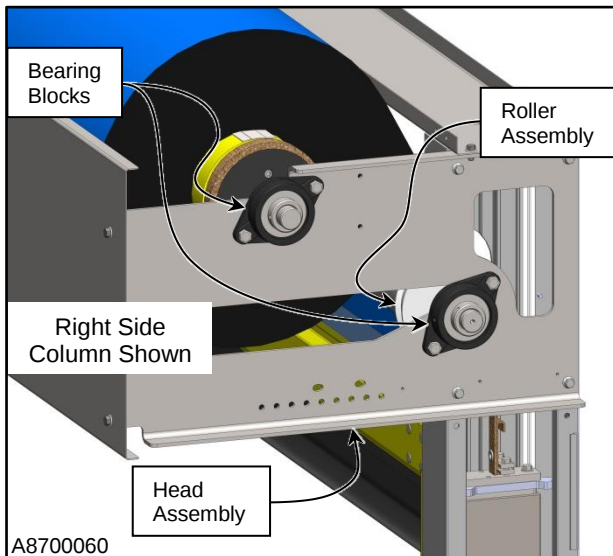

Figure 30
2. **Flange Block Bearings:** The drum roll/door panel is supported by two bearings, which are located at both ends of the assembly. The bearings have a grease fitting. (See Figure 30)